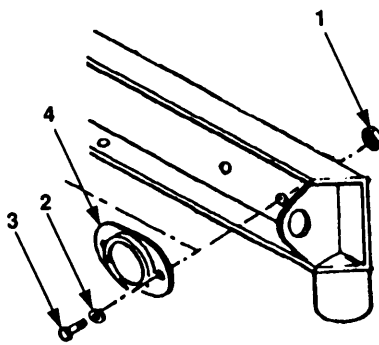

Figure 4-59. Reflector Maintenance.
- a. Remove nuts (1, figure 4-59), lockwashers (2), and bolts (3).
- b. Remove reflectors (4).